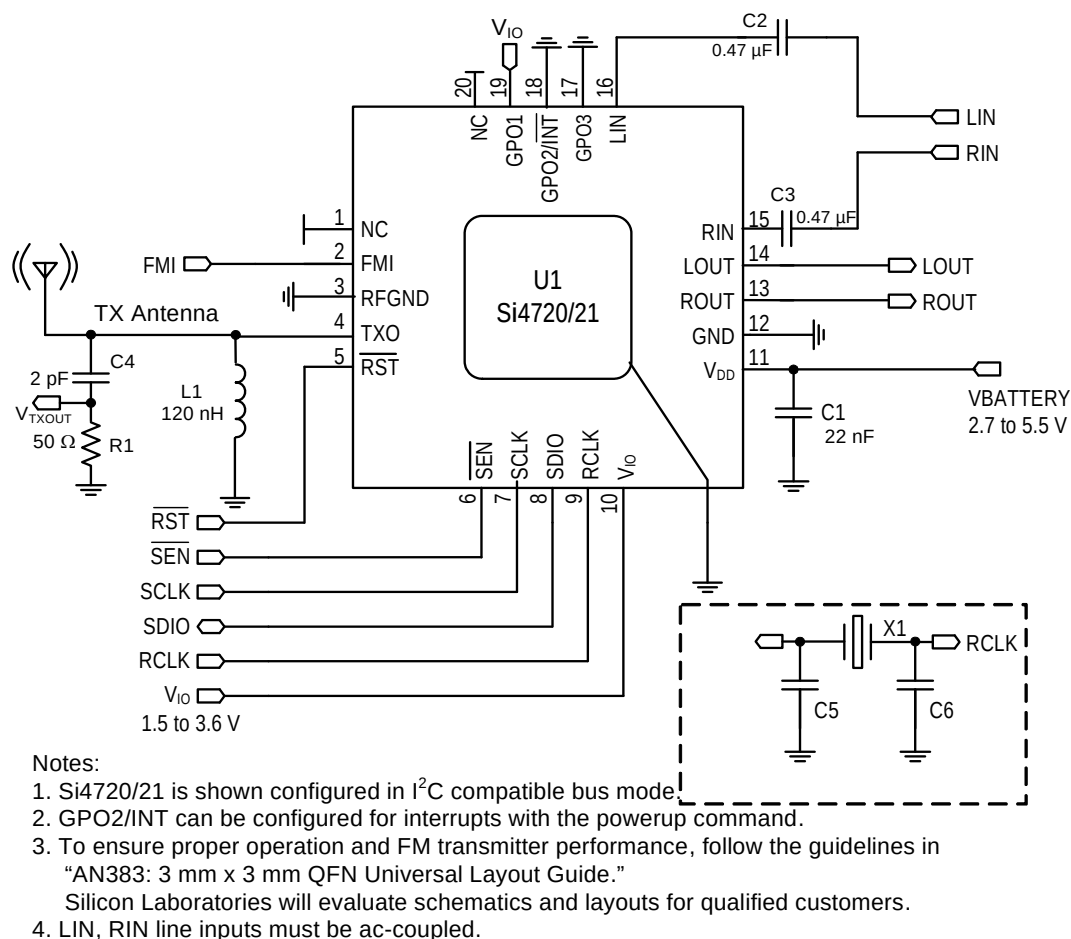

Figure 10. Test Circuit Schematic
1. FM transmitter performance specifications are subject to adherence to Silicon Laboratories guidelines in "AN383: Universal Antenna Selection and Layout Guidelines." Silicon Laboratories will evaluate schematics and layouts for qualified customers. Tested with test schematic ($L = 120 \text{ nH}$, $Q \geq 30$) shown in Figure 10 on page 19.
1. FM transmitter performance specifications are subject to adherence to Silicon Laboratories guidelines in "AN383: Universal Antenna Selection and Layout Guidelines." Silicon Laboratories will evaluate schematics and layouts for qualified customers. Tested with test schematic (L = 120 nH, Q $\geq$ 30) shown in Figure 10 on page 19.